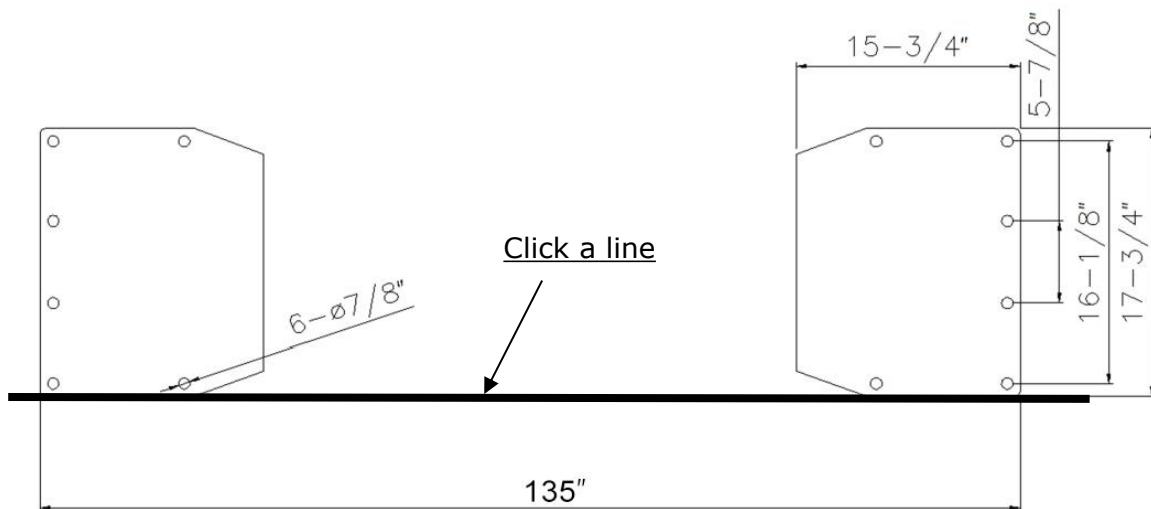

Fig. 7
B. Use a carpenter's chalk line to establish installation layout of base-plate (See Fig.7).